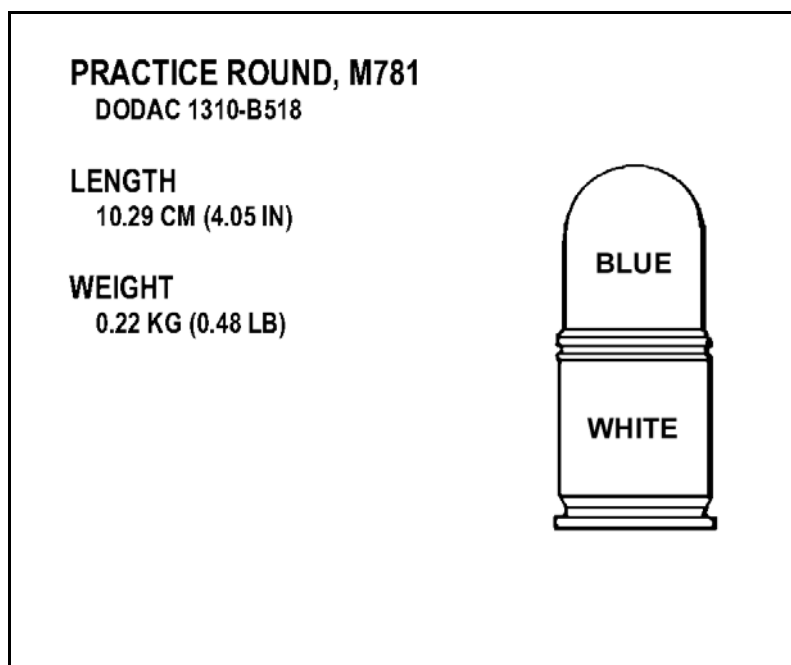

Figure 3-15. Practice round.
(6) **Practice Round.** Used for practice, this round is blue zinc or aluminum with white markings (Figure 3-15). It produces a yellow or orange signature on impact, arms between 14 and 27 meters, and has a danger radius of 20 meters.